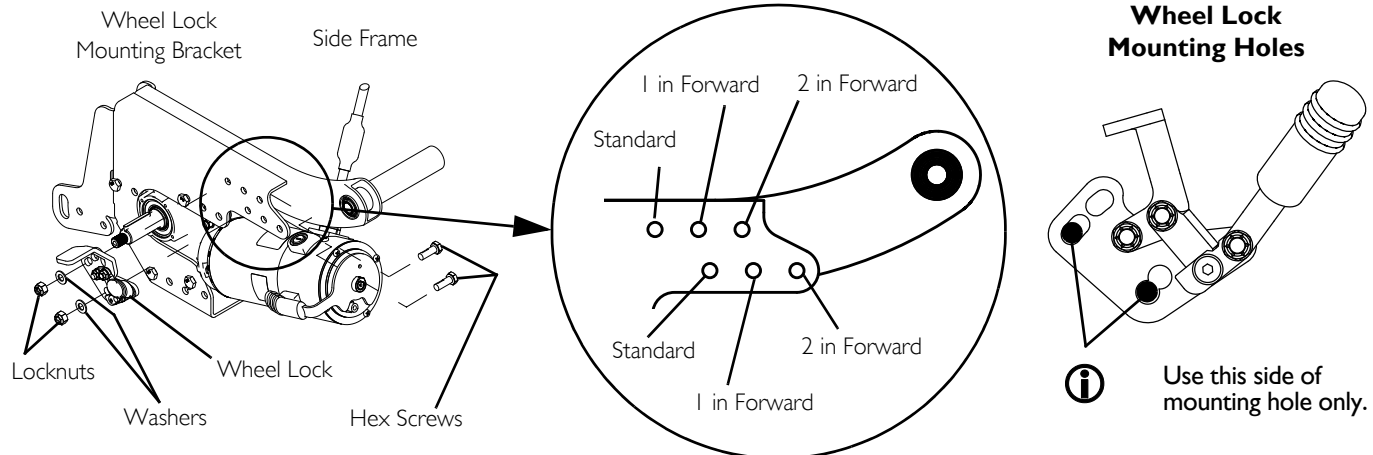

FIGURE 11 Installing Wheel Locks for Motor/Gearbox Assemblies
Refer to FIGURE 11 for proper positioning of wheel locks.
1. Determine the appropriate wheel lock mounting position on the wheel lock mounting bracket located on the side frame (FIGURE 11).
2. Using the wheel lock mounting holes shown in FIGURE 11, Position the wheel lock on the outside of the wheel lock mounting bracket of the side frame.